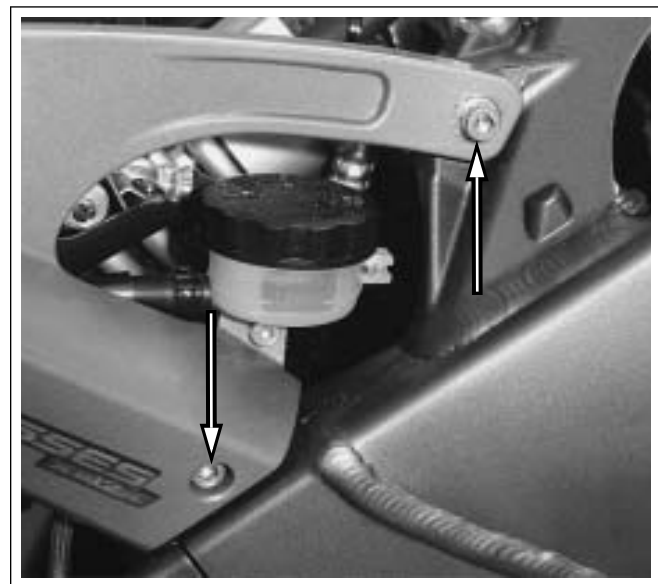

Figure 2-133. Front Outside Fasteners Right Side Tail Section
12. See Figure 2-133. Remove the final two fasteners on the outside of the right tail section and remove the right side tail section.